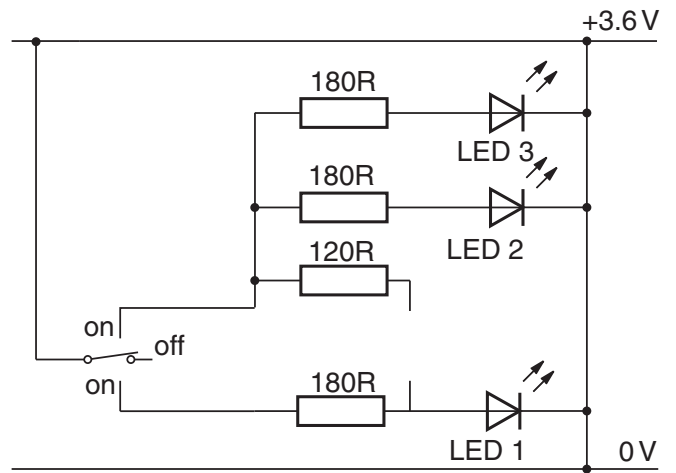

Fig. 2b
- (i) Complete Fig. 2b to show how a diode can be used to overcome the problem.